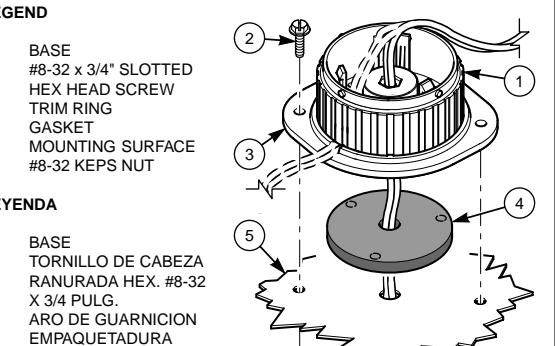

Figure 2. /Figura 2. /Figure 2.
##### 2. Optional Trim Ring Mount (see figure 2).
- c. Using the base/trim ring assembly as a template, scribe mounting hole locations on the mounting surface. If desired, scribe a center wire routing hole location on the mounting surface (see figure 2).
- f. See figure 2. Route the circuit board assembly wires through the base center hole and into the wire routing hole, or route the circuit board assembly wires through the 1/4" diameter base hole and exit through the notch in the base.